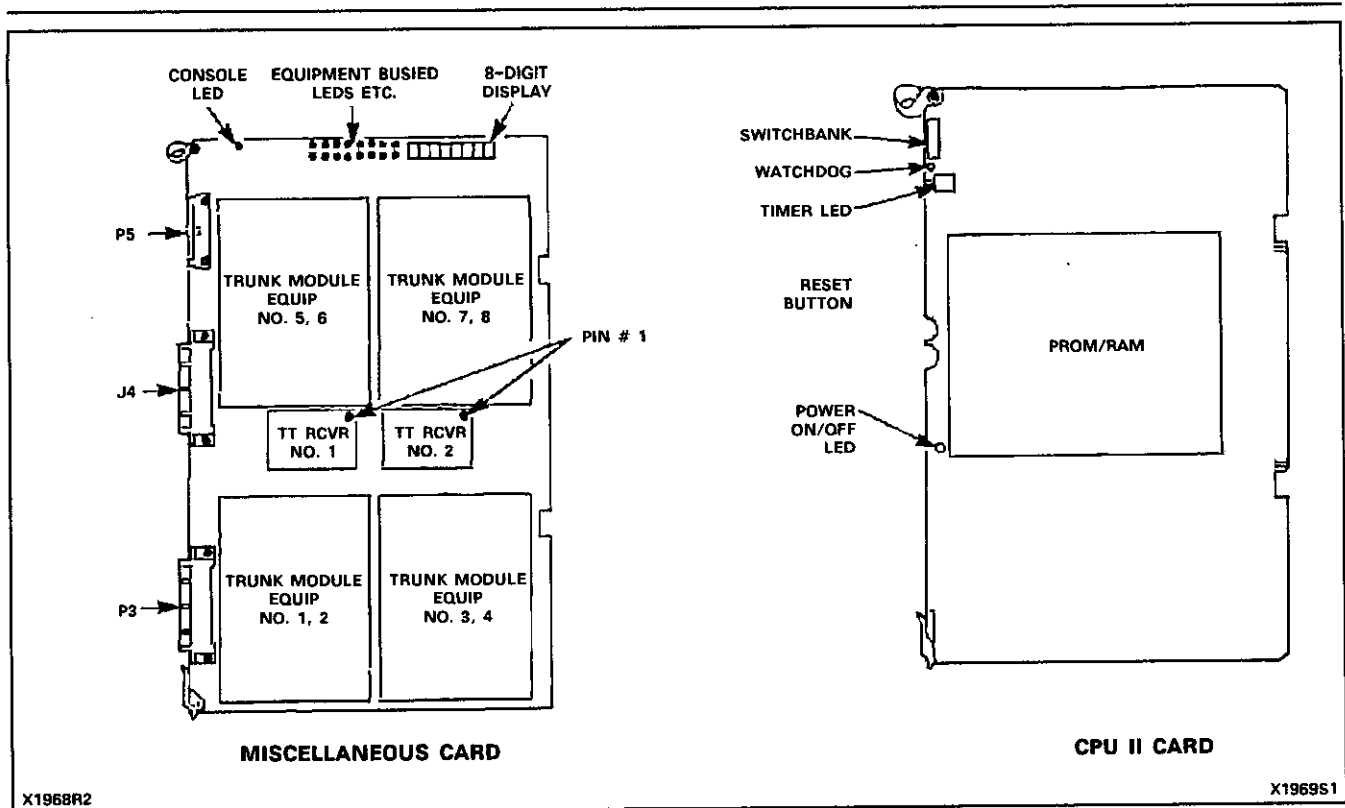

Figure 2-4 Maintenance LEDs
2.21 Maintenance LEDs. The maintenance LEDs are mounted on the CPU II Card and Miscellaneous Card (refer to Figure 2-4) and perform the following functions: